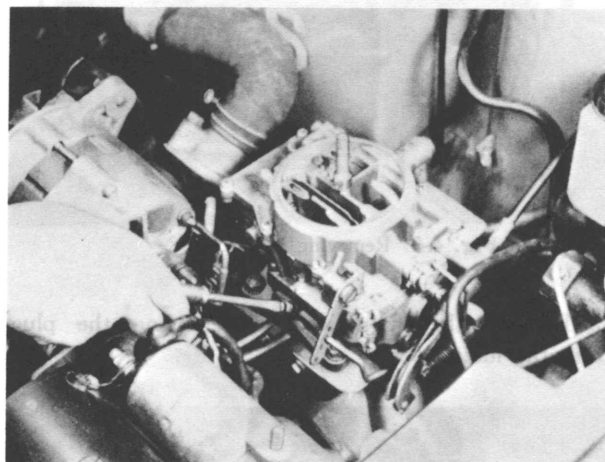

Fig. 4-14 Adjusting idle
1. Adjust the idle adjusting screw until the smooth idling is obtained. When the idle adjusting screw is screwed in, the mixture of fuel and air becomes lean. When the screw is loosened, the mixture becomes rich. (Refer to Fig. 4-14)